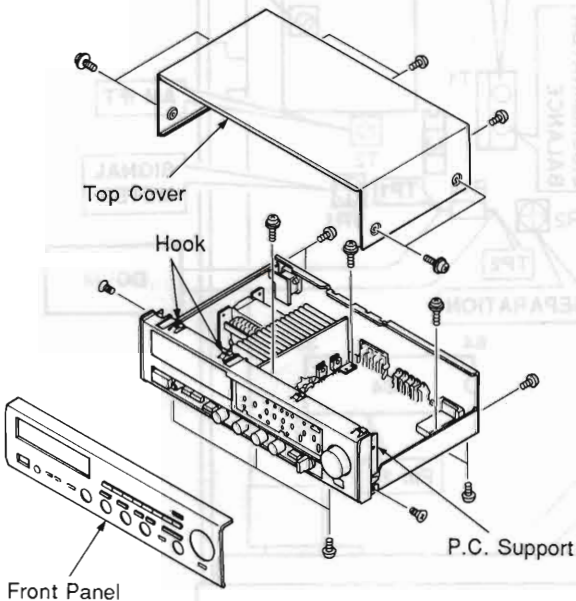

Fig. 1
Remove 7 screws (①) in Fig. 1 and slide the Top Cover back and up.
Remove 3 screws (②) and 4 hooks in Fig. 1, and pull the Front Panel forward.
3. Check of Main Circuit Board (1) and replacement of parts.
- a. Remove 12 screws (③) in Fig. 1.